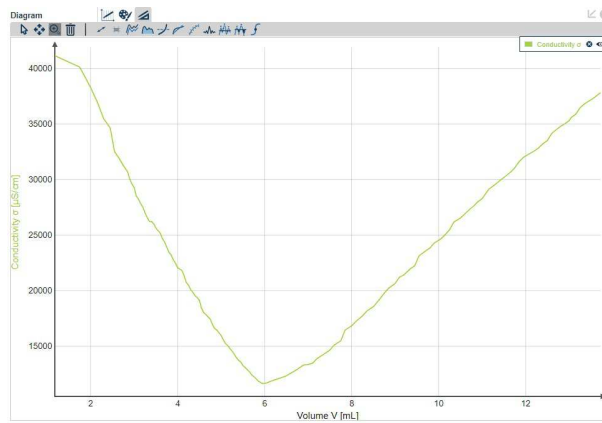

Fig. 4 :Titration diagram for the neutralisation of an approximately 0.1 molar HCl (V = 5 ml) with NaOH (c = 0.1 mol / l).
In the case of overtitration, the conductivity of the concentration of the hydronium ions with high ion mobility added in excess ($u = 174 \text{ S} \cdot \text{cm}^2 \cdot \text{mol}^{-1}$) increases linearly (Fig. 4).
The titration curves are shown in Figs. 3 to 5. The volumes of the standard solution required to reach the equivalence points can be determined from them, i.e. $V_1 = 4.75 \text{ ml H}_2\text{SO}_4$ (Fig.3), $V_1 = 4.95 \text{ ml NaOH}$ (Fig. 4) and $V_1 = 6.25 \text{ ml NaOH}$ (Fig. 5). From equation (5), the concentrations $c_2 = 0.095 \text{ mol/l Ba(OH)}_2$, $c_2 = 0.099 \text{ mol/l HCl}$ and $c_2 = 0.125 \text{ mol/l CH}_3\text{COOH}$ can be calculated, and from these the masses in the 5 ml test volumes; $m_2 = 81.38 \text{ mg Ba(OH)}_2$, $m_2 = 18 \text{ mg HCl}$ and $m_2 = 37.5 \text{ mg CH}_3\text{COOH}$.